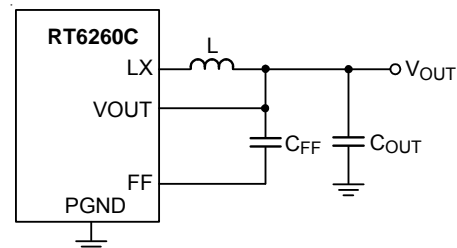
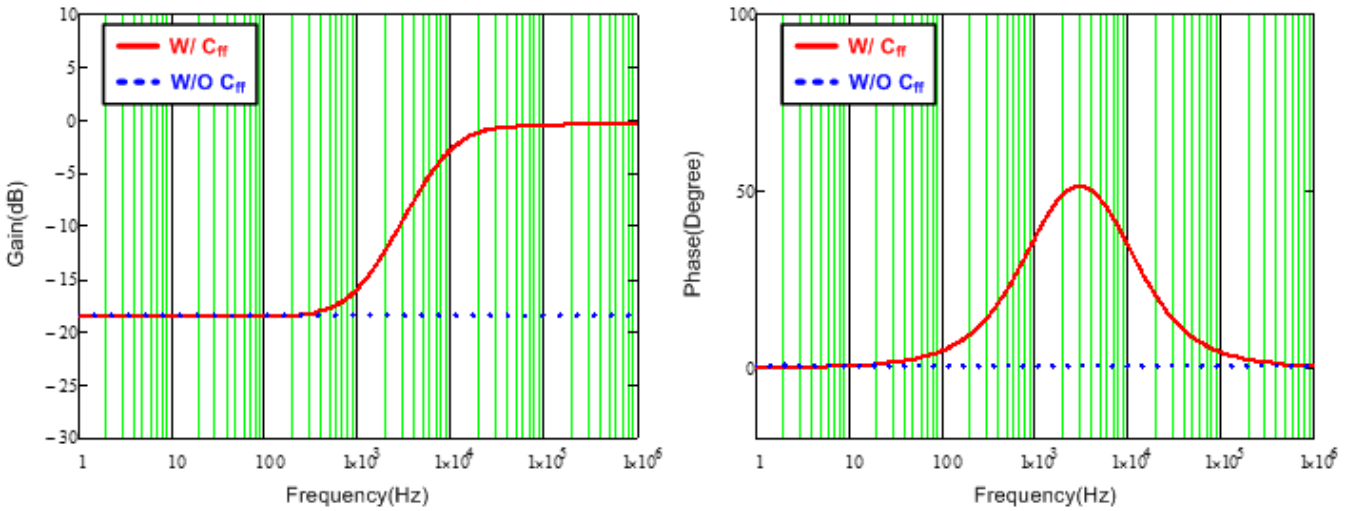

Figure 4. Feedback Loop with Feedforward Capacitor
Figure 5. Bode Plot with Different Feedback Loop Conditions
For saving time to design compensator and reducing the layout area through external components, the components of compensator are integrated in IC. However, this integrated compensator might not suit to every load transient spec. Hence, for the RT6260C to be more adaptable, the feedforward capacitor CFF is used in the feedback loop to improve transient response, as shown in Figure 4. Figure 5 shows the comparison result of bode plot with different feedback loop conditions. Referring to Figure 5, through connecting a CFF in feedback network, the gain and phase are raised in mid-frequency that not only can extend the bandwidth, but boost the phase margin as well. Moreover, there is also a high frequency pole to eliminate high frequency noise. Consequently, those features of feedforward feedback network allow the RT6260C have faster response to handle different load transient.
Observing Figure 5, the maximum phase boost occurs between zero and pole frequencies that is defined as maximum phase boost frequency, as expressed in equation (4). Hence, in order to achieve the maximum phase boost by adding  $C_{FF}$  in the RT6260C, the system's original bandwidth has to be located at maximum phase boost frequency.